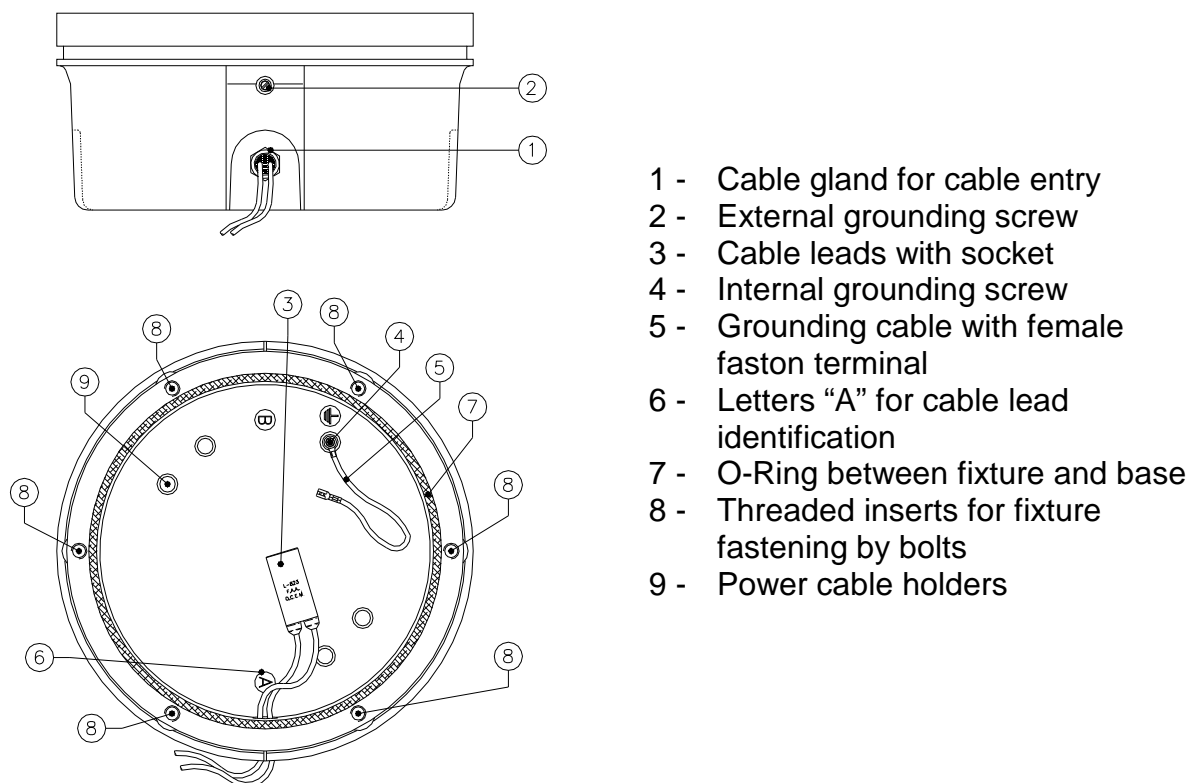

Figure 7 – Standard 12" shallow base (mounting system "B")
Watertightness between fixture and shallow base is ensured by means of an O-Ring (fig.7 – n°7 separately supplied) to be placed on the relevant groove on the shallow base.
The **shallow base** (mounting system B) (fig.7) consists of a treated aluminium casting containing an electrical feed-thru system to connect the power cables, consisting of one cable lead with receptacle incoming inside the base through one cable gland. The cable lead with receptacle consists of two single-pole leads, size 2.5 mm^2 , 1 m long, with FAA L-823 receptacle.
An O-Ring (separately supplied) must be placed between base and fixture for watertightness (fig.7 - n°7) placed in the relevant shallow base groove.
Inside the base two suitable holders (fig.7 - n°9) are provided to properly sustain the secondary power cable, in case of this cable is inside incoming through a conduit.
- b) all the fixture gaskets: O-Rings between dome and lower cover (fig.1 – n°20); O-Ring around the dome (fig.1 – n°19); prism gasket (fig.1 - n°4); O-Ring between fixture and shallow base (fig.7 – n°7); check the integrity and replace them, if necessary, as described at paragraph 4.5;